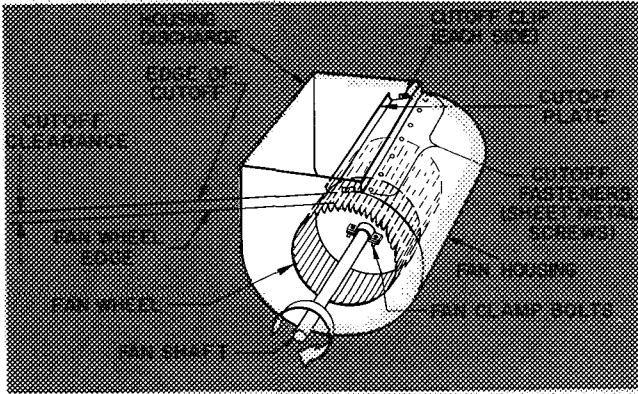

Fig. 29 – Fan Details
4. Remove cutoff plate per Fig. 29 and remove fan wheel thru housing discharge.